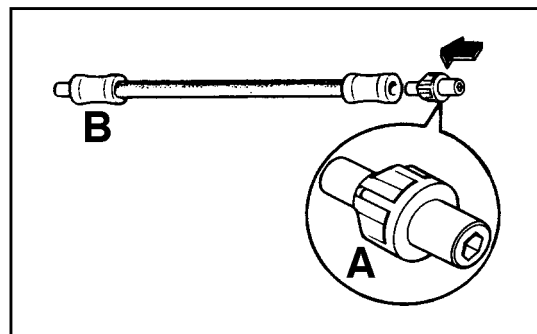

Fig. 16
- Set the water tank exhaust-pipe ready for use. Fit the connector with hexagonal nut (Figure 16, letter "A") to one of the edges of the pipe.